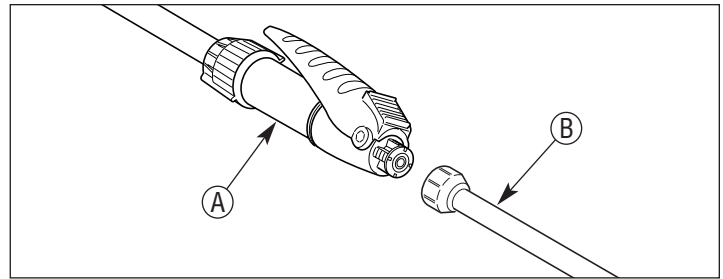

Figure 5. Install Extension
1. Install the extension onto the shut-off assembly and tighten the nut securely. See Figure 5.